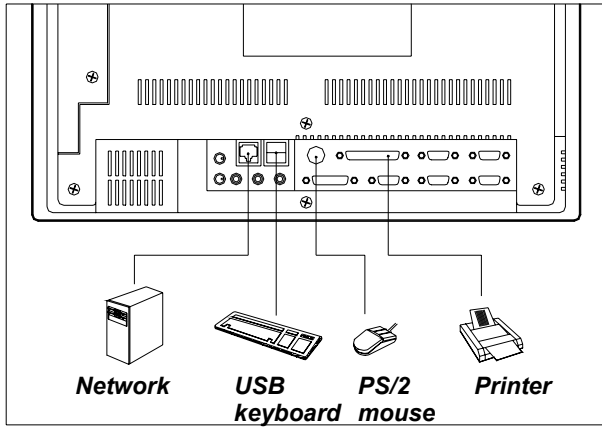

Figure 3.3: I/O interface (excluding COM ports)
3. If necessary, attach the other end of your printer cable to your printer, and fasten any retaining screws. A typical parallel printer connection is illustrated in Fig. 3-3.
1. Connect the external device to the system. (See Fig. 3-3.)
2. Connect the external device(s) to the panel PC. (See Fig. 3-3.)